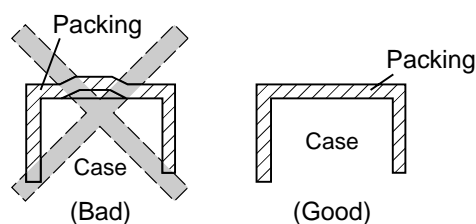

Figure 3
- ② Tighten screws on the fixing frame or fixtures so that no gaps are given between the front of equipment and packing and between panels. Check that there are no deviation and deformation of packing as shown in Fig.3.